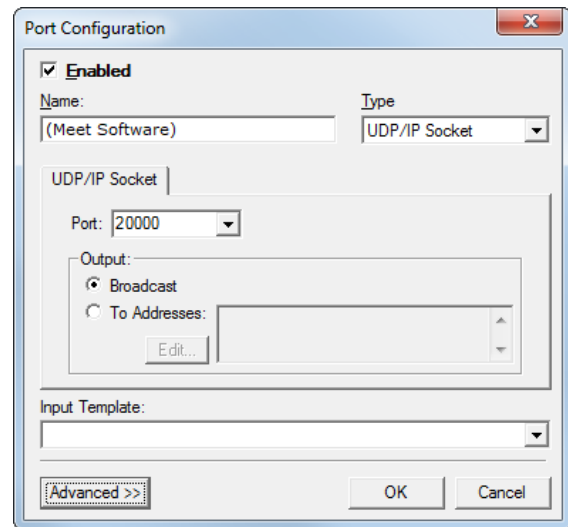

Figure 51: Port 2 Configuration
- Double-click **Port 2**. The *Port Configuration* window will open. Configure Port 2 as follows and as shown in **Figure 51**: